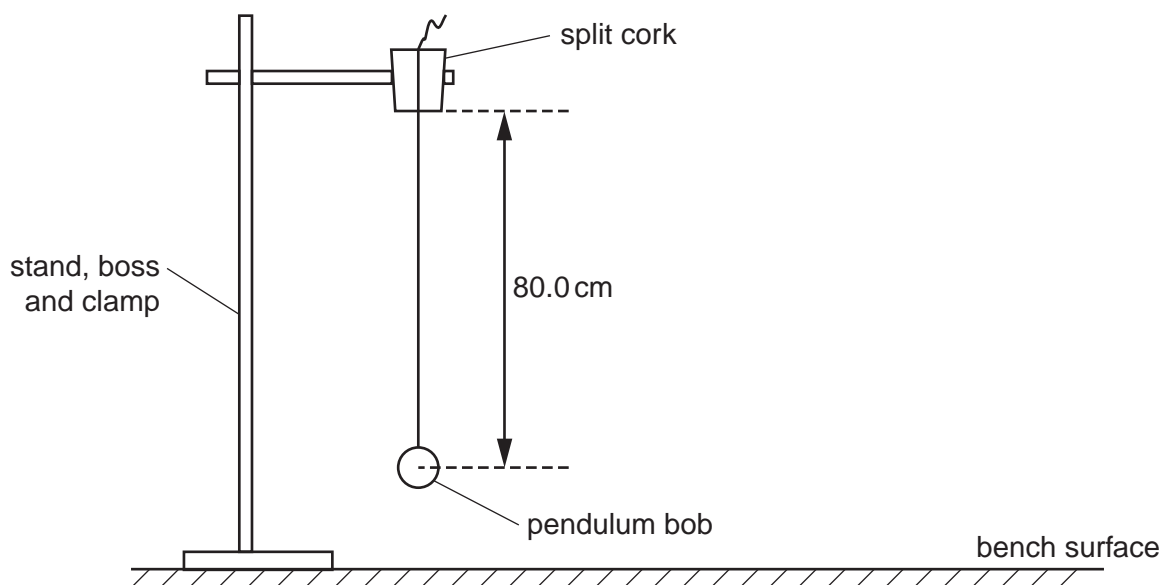

Fig. 2.1
1. One end of the thin string should be attached to the pendulum bob, and the other end should be passed through the split cork. The apparatus should then be set up by the Supervisor as shown in Fig. 2.1. The string should then be pulled through the split cork until a simple pendulum of exact length 80.0 cm, from the bottom of the split cork to the middle of the pendulum bob, is set up.